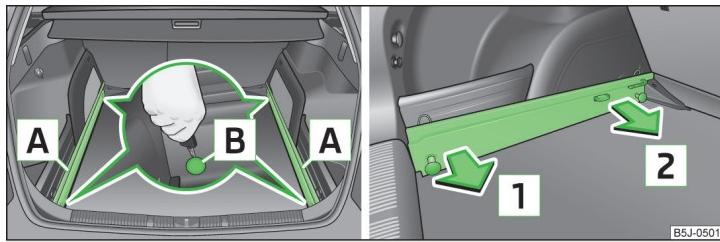

Fig. 69 Slacken check points/remove carrier rails
- Undo the securing points **B** » Fig. 69 on the carrier rails using the vehicle key or a flat screwdriver.
- Press the two securing points **B** » Fig. 69 on each carrier rail to the stop.